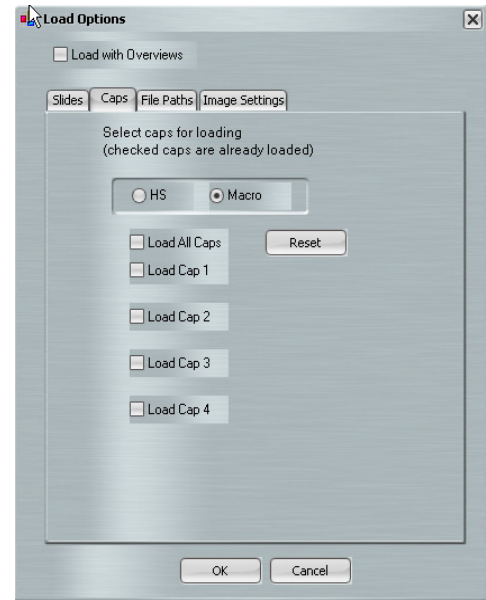

Figure 18 Load options for caps
2. Check each cap that is loaded, or click **Load All Caps** to check all of the check boxes at once (see Figure 18).